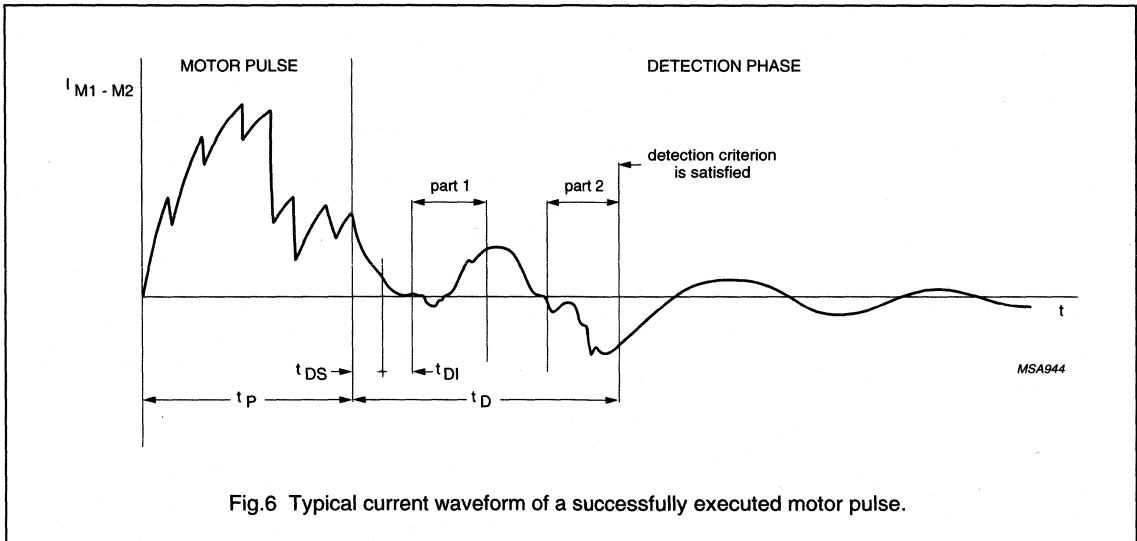

Fig.6 Typical current waveform of a successfully executed motor pulse.
The PCA146x uses current detection in two defined parts of the detection phase to determine if the motor has moved (refer to Figs 6 and 7). The detection criteria are:
- Minimum value of $N = 2$; where $N =$ number of measured positive current polarities since the first negative current polarity after part 1 was detected (see Fig.6).